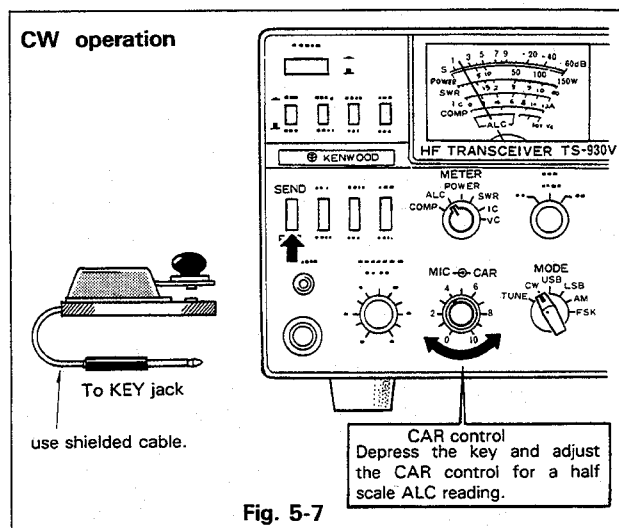

Fig. 5-7
- (1) Using shielded line, connect a key to the rear-panel KEY jack.
- (2) Place the MODE switch to CW, and the meter switch to ALC.
- (3) Place the standby switch to SEND.
- (4) Depress the key and adjust the CAR control for a half scale ALC reading (see Figure 5-7).